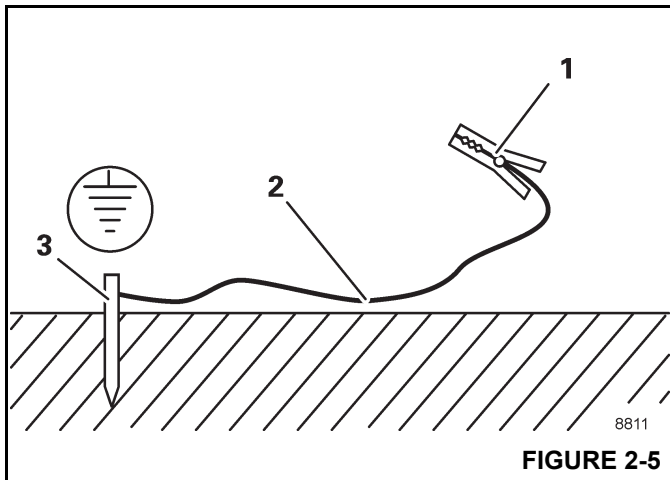

FIGURE 2-5
1. Hammer a metal rod (3, Figure 2-5) (length of approximately 2.0 m (6.6 ft)) at least 1.5 m (5 ft) into the ground.
2. Moisten the soil around the metal rod (3) for better conductivity.
3. Clamp an insulated cable (2) to the metal rod (3), cross-section of at least 16 mm² (0.025 in²) (AWG 5).
4. Connect the free end of the cable with a clamp (1) to a good electrically conductive location on the frame.